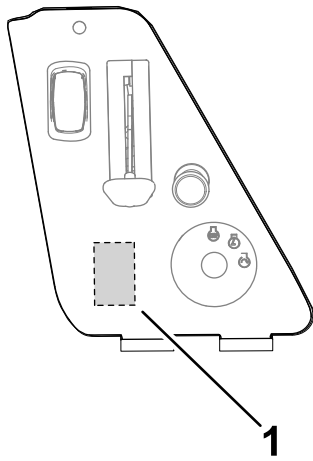

Figure 2
2. Locate the cutout location for the hour meter in the control panel and cut an "X" pattern in the decal (Figure 2).